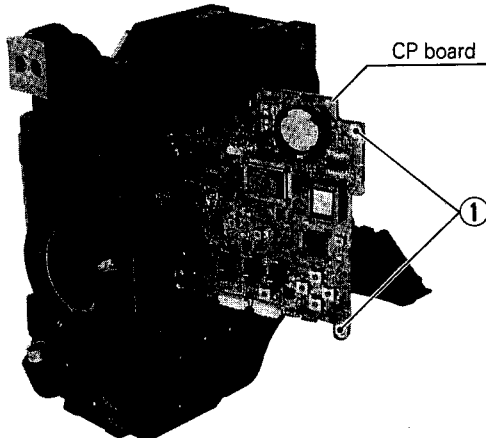

Fig. 1-4-1 CP Board
- (1) Remove the right side cover (see section 1.3.1).
- (2) By removing the 2 screws ① from the CP board, the CP board can be opened as shown in Fig. 1-4-1, so that the diagnoses can be done easily.